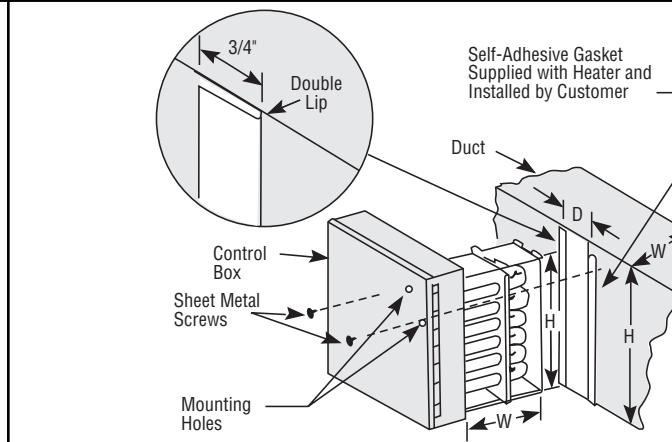

Figure 18
2. Increase D-1½" slot to D by forming a ¾" double lip on both sides of the duct opening. (See Figure 18).